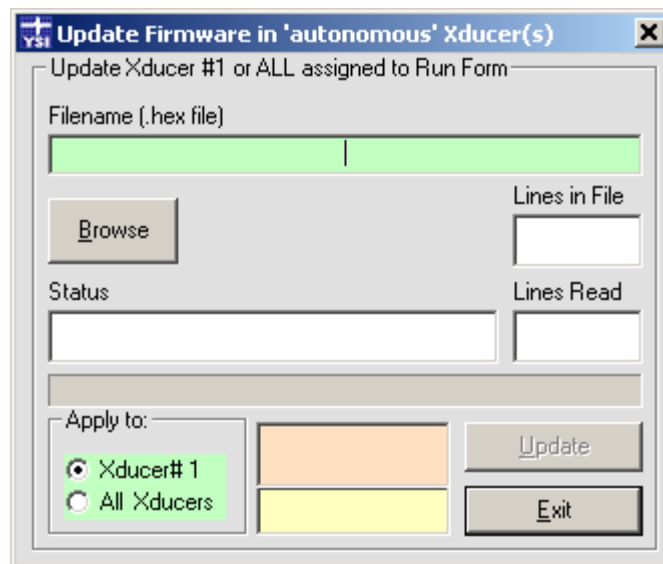

Figure 4.14
- 4) From the menu bar select **Configure** and then **Update Firmware**. The Update Firmware window will open (figure 4.14). Click the **Browse** button to locate the new firmware file to be downloaded to the Level Scout. To update all transducers listed on the Run window, ensure they have all been unlocked as described above, then click the **All Xdcucers** option in the Apply to frame.